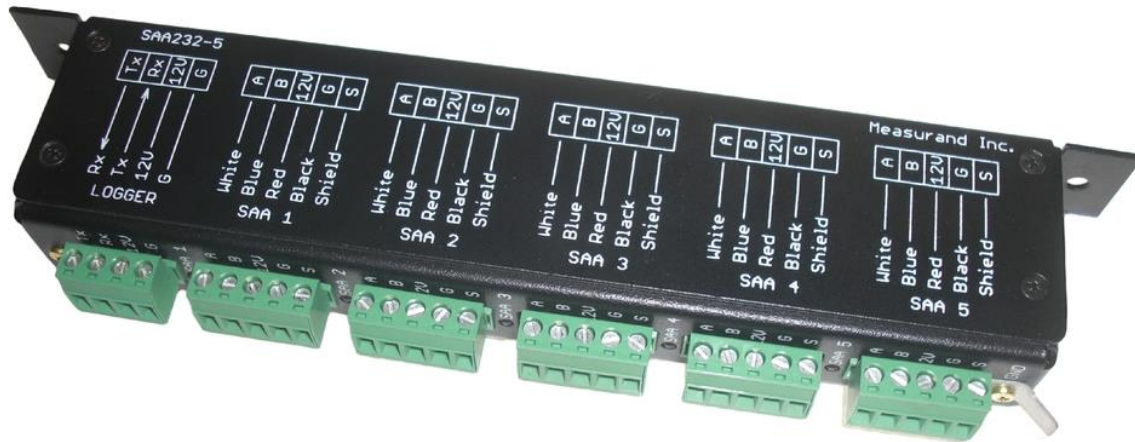

Figure F.1: SAA232-5. 4-pin green connector connects to RS232 port of computer. 5-pin green connectors connect up to five SAAs.
Multiple SAA can be connected to Measurand's SAA232-5 converter. A picture of the SAA232-5 is shown in Figure F.1 below. The SAA232-5 works in much the same way as the SAA232 (provides surge protection for the SAA and applies power to a single SAA at a time, converts RS232 to RS485) but it can accept up to five SAAs and connects them all to one serial port on the PC. The SAA232-5 is used to sample one SAA at a time through the same PC serial port. For applications where very fast readings are required, multiple SAA232 or SAAUSB devices should be used instead.
1) Connect each SAA to a green 5-pin connector on the SAA232-5 (Figure F.1), making sure to note which SAA is connected to which SAA232-5 port. The SAA wiring is as follows: